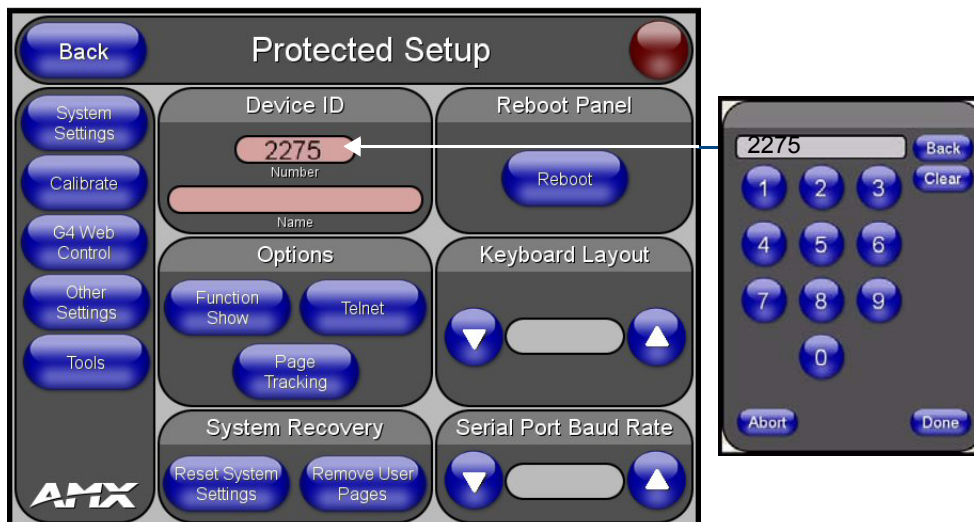
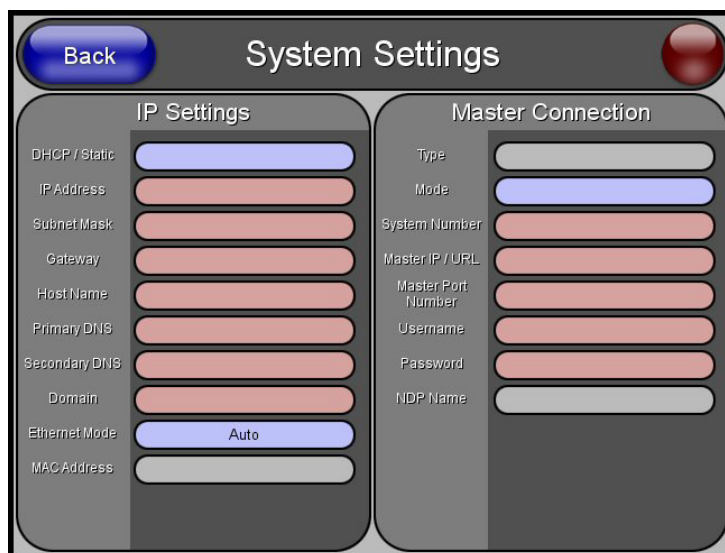

FIG. 37 Protected Setup page with Keypad
FIG. 39 System Settings page
- b. Press **Done** to close the keypad (FIG. 37).
3. Enter a **Device Number** value for the TPI (FIG. 37):
3. Press the **System Settings** button (on the *Protected Setup* page - see FIG. 37) to open the *System Settings* page (FIG. 39).
1. Press the **System Settings** button on the *Protected Setup* page (FIG. 37 on page 42) to open the *System Settings* page (FIG. 39 on page 43).